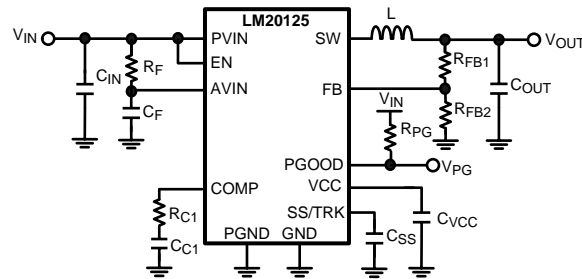

Figure 25. Typical Application Circuit
The LM20125 switching regulator features all of the functions necessary to implement an efficient low voltage buck regulator using a minimum number of external components. This easy to use regulator features two integrated switches and is capable of supplying up to 5A of continuous output current. The regulator utilizes peak current mode control with nonlinear slope compensation to optimize stability and transient response over the entire output voltage range. Peak current mode control also provides inherent line feed-forward, cycle-by-cycle current limiting and easy loop compensation. The fixed 500 kHz operating frequency minimizes the inductor size while still achieving efficiencies up to 96%. The precision internal voltage reference allows the output to be set as low as 0.8V. Fault protection features include: current limiting, thermal shutdown, over voltage protection, and shutdown capability. The device is available in the TSSOP 16-pin package featuring an exposed pad to aid thermal dissipation. The LM20125 can be used in numerous applications to efficiently step-down from a 5V or 3.3V bus. The typical application circuit for the LM20125 is shown in Figure 25 in the design guide.
This section walks the designer through the steps necessary to select the external components to build a fully functional power supply. As with any DC-DC converter numerous trade-offs are possible to optimize the design for efficiency, size, or performance. These will be taken into account and highlighted throughout this discussion. To facilitate component selection discussions the circuit shown in Figure 25 below may be used as a reference. Unless otherwise indicated all formulas assume units of amps (A) for current, farads (F) for capacitance, henries (H) for inductance and volts (V) for voltages.
To prevent high frequency noise spikes from disturbing the sensitive analog circuitry connected to the AVIN and AGND pins, a high frequency RC filter is required between PVIN and AVIN. These components are shown in Figure 25 as C_F and R_F . The required value for R_F is 1Ω. C_F must be used. Recommended value of C_F is 1.0 μF. The filter capacitor, C_F should be placed as close to the IC as possible with a direct connection from AVIN to AGND. A good quality X5R or X7R ceramic capacitor should be used for C_F .